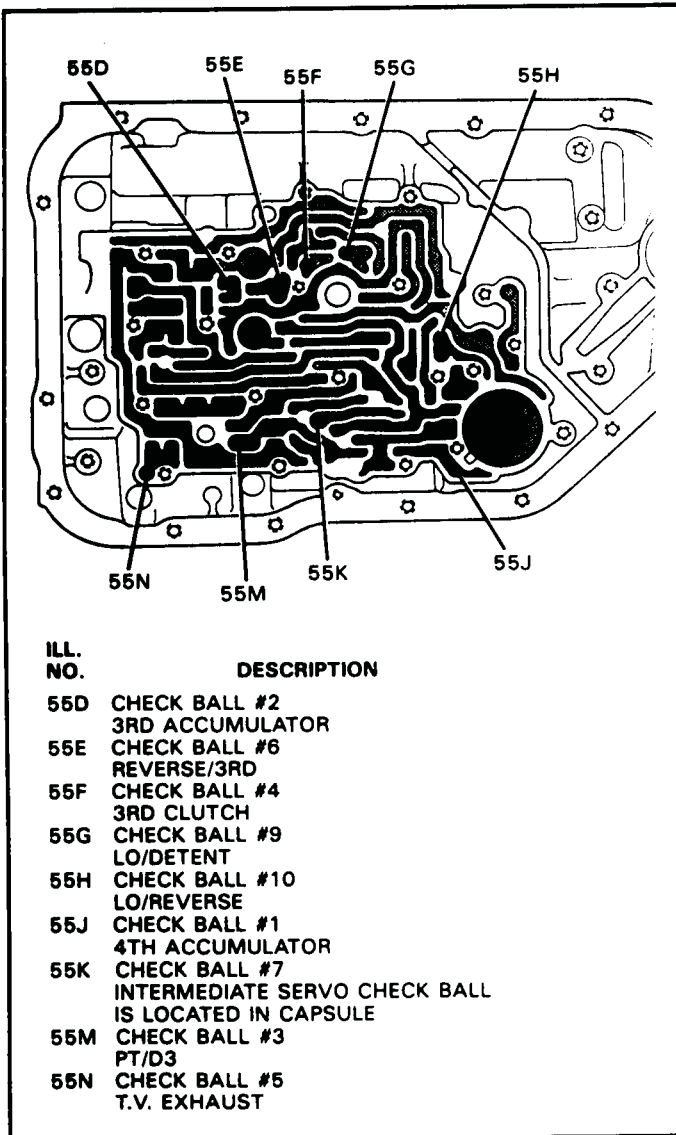

Figure 146
1. Install the checkballs into the case pockets in the locations shown in Figure 146. See also Page 23 for checkball locations.